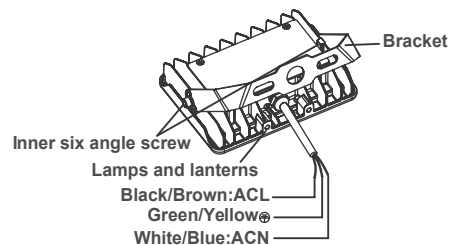

Fig. 3.2
2. Mark and drill holes in wall or mounting surface and connect bracket. Connect power supply wires in junction box while observing Line 1 and neutral polarity. Ensure proper grounding (Fig 3.2).